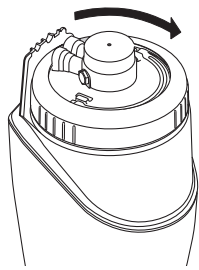

Fig. 40
12. **Screw** on the Retaining Ring until it hits a STOP. No exposed threads should be visible below the Retaining Ring. If threads are exposed, the Bracket is not pushed all the way down (Fig. 40).